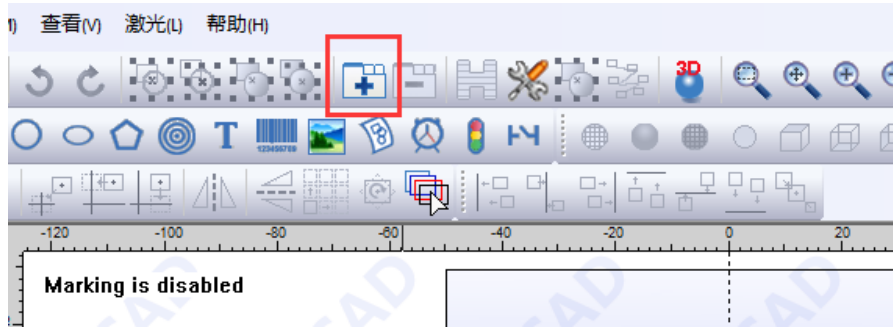

Figure 7.1 Increase the number of layers
1. Set the number of layers: Click the icon in Figure 7.1 to increase the number of layers